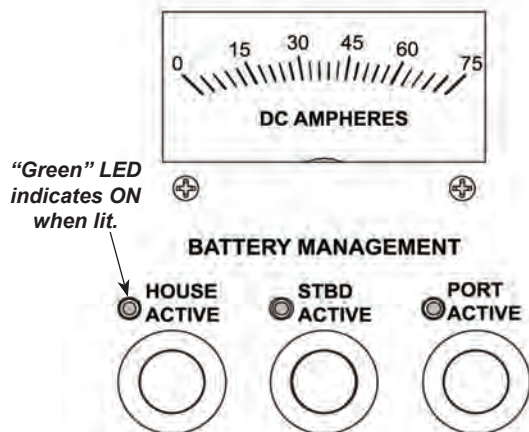

Figure A1: Battery Activation Switches
4. Activate the 3 batteries (Port, Stbd & House) by pressing the respective main battery switches located on the 12VDC cabin panel. See Figure A1.